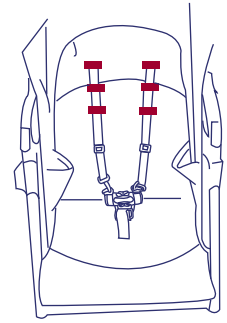

Figure 12a.
- The shoulder straps of the 5-point harness have 3 attachment positions. Select the loop position that places the shoulder strap level with, or below the top of the child's shoulder and feed the shoulder harness under the correct loop. Please see figure 12a. The jogging stroller also comes with a removable head support, attached by 2 hook and loop fasteners. See figure 12b.